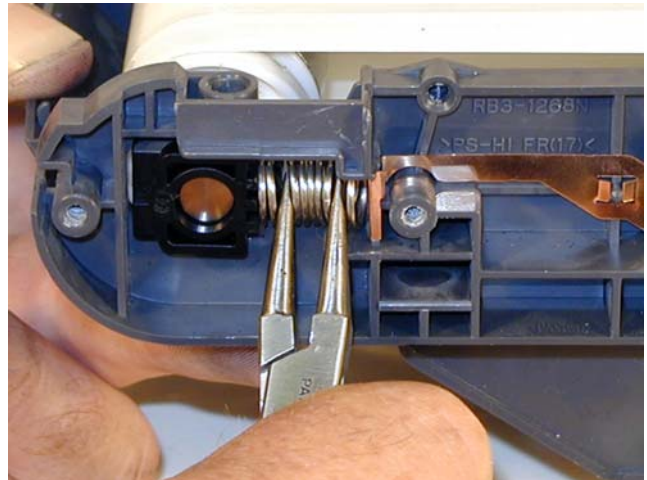

Figure 34
26) Install the belt tension springs. Take a pair of needle nose pliers and compress the spring. Install on the post first, and slide the bottom of the spring in. See **Fig. 34**